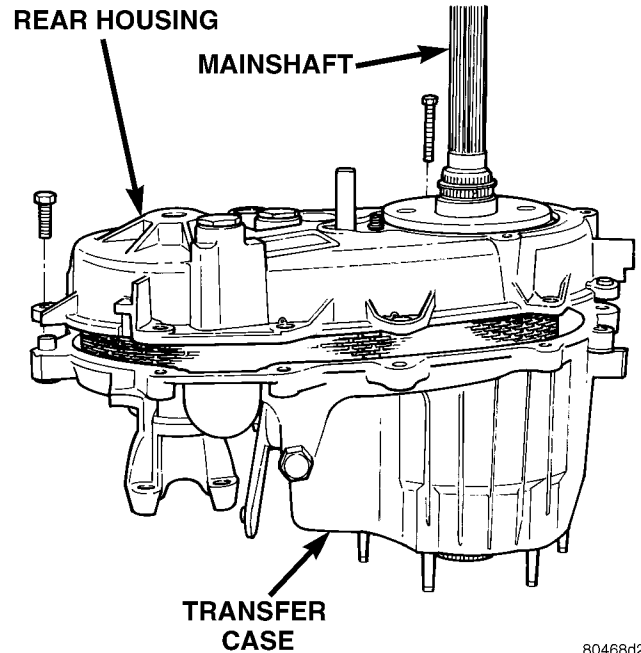

Fig. 26 Rear Case Removal
- (4) Remove rear case (Fig. 26).